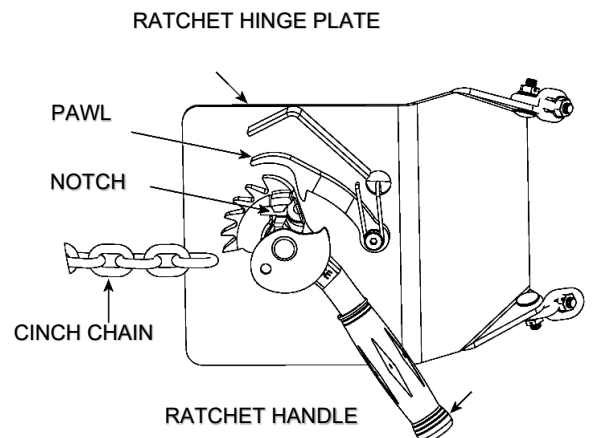

Figure 3.2
- Attaching drum:** Drape cinch chain across front of drum and engage chain link into notch in ratchet (Figure 3.2). Turn ratchet clockwise to tighten cinch chain. If ratchet turns until pawl is beyond last ratchet tooth, turn ratchet back and slide next link into ratchet notch and try tightening again. Cinch chain must be held tightly against drum with pawl engaged securely in ratchet teeth.